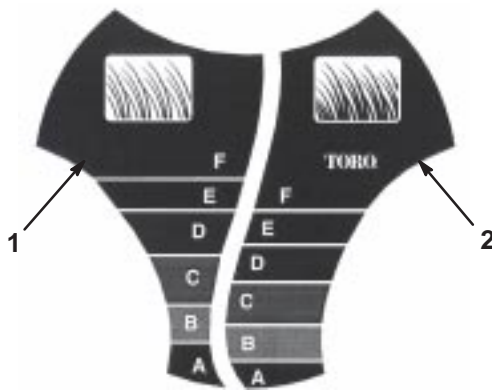

Figure 17
The *SmartWheel*™ has 2 cutting scales: *Sparse/Normal* and *Lush*—to ensure the best cutting height setting in any mowing condition (Fig. 17). Use the *Sparse/Normal* scale during the warm summer season for the majority of your mowing. The *Lush* scale is for thick, moist, and succulent grass that grows most often in the spring.
2. Move the lawn mower into the grass; stop moving the lawn mower when the *SmartWheel* design on one of the rear wheels is upright (Fig. 17).